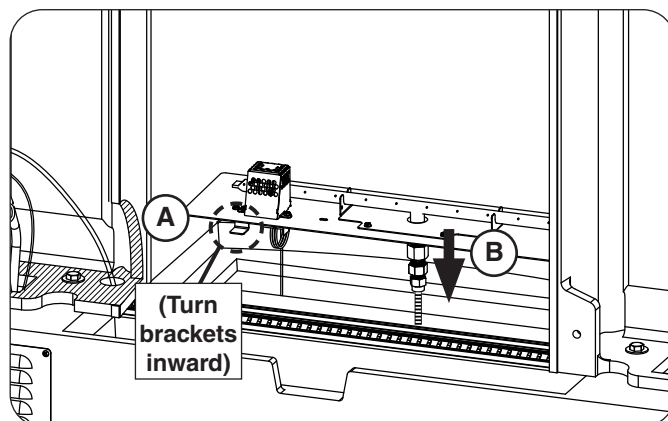

Fig. 25-3 Reinstall burner
1. Ensure that the four burner brackets are turned inward, then insert the burner assembly (see Fig. 25-3, A-B).